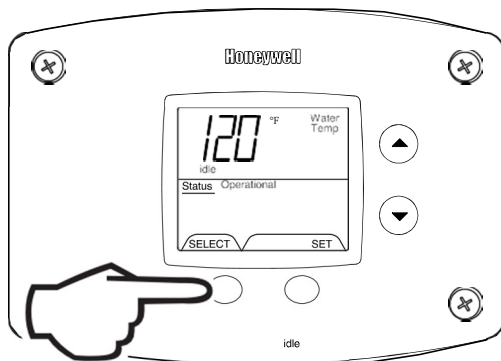

Fig. 28
2. Pressing 'Select' button will change display to next mode (Fig. 28).